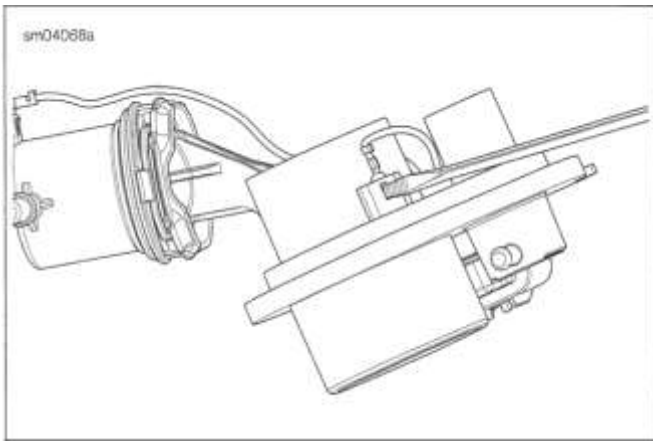

Figure 6-9. Remove Ground Wire Spade Terminal From Top Plate
3. See Figure 6-9. Disconnect ground wire spade terminal from slot of top plate.